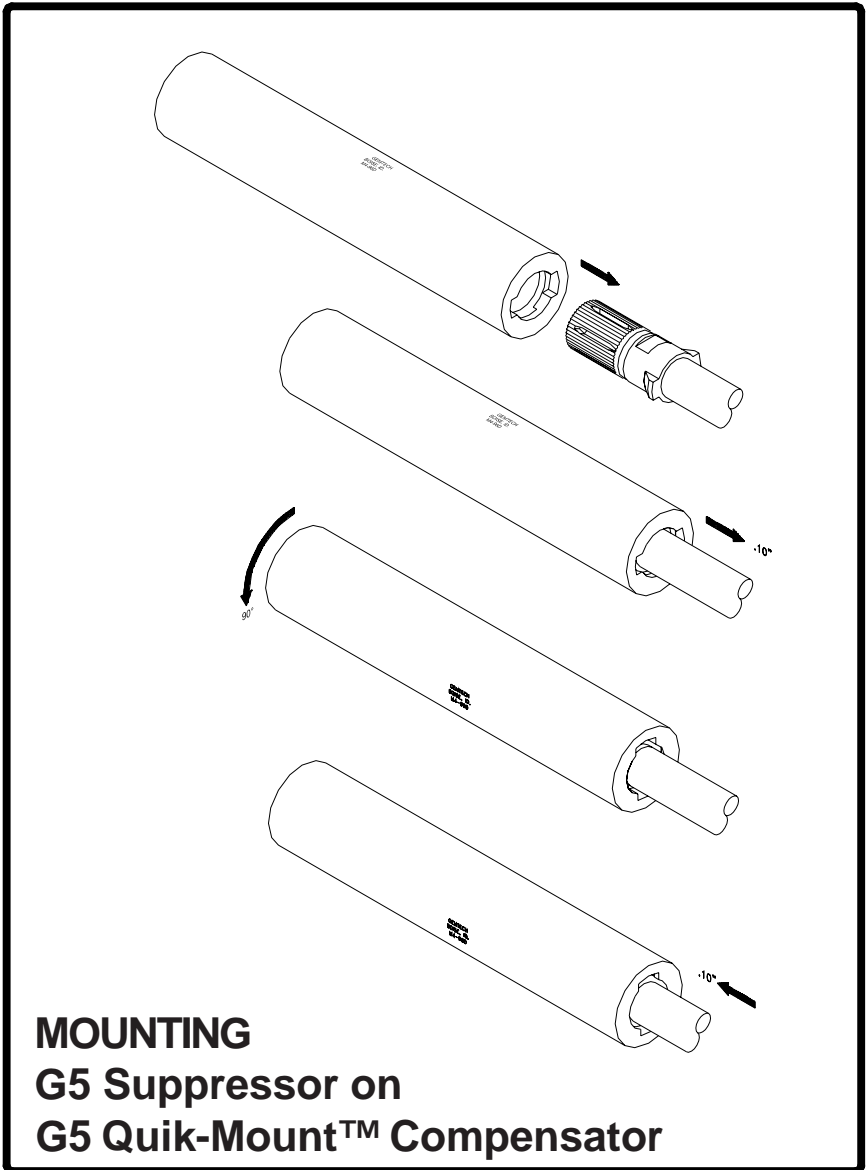

Fig. 2.1
- 2.8.1 Mounting: To mount and dismount the G5 sound suppressor on the G5 Quik-Mount™ Compensator, follow the following steps, detailed in the Fig. 2.1, P. 11: